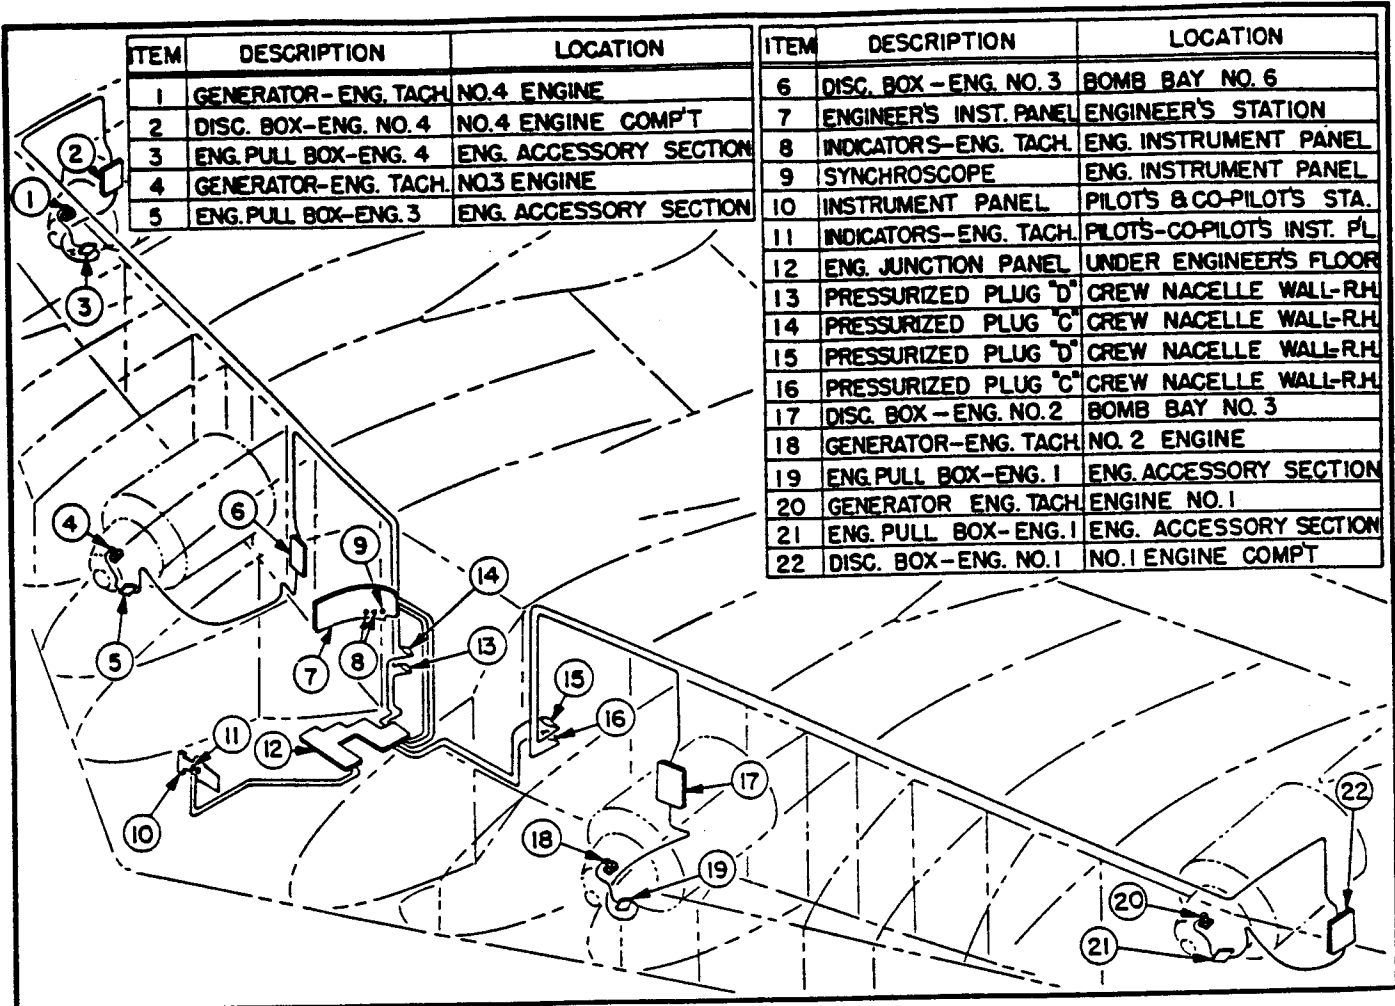

Figure 13. Tachometer Generator Electrical Circuit
g. **TACHOMETER GENERATORS, AN5531-1.** (See figure 13.)- Are installed on the four engine cases and on the four fan shrouds. Tachometer generators GE Type GM5, are installed on both auxiliary power units.